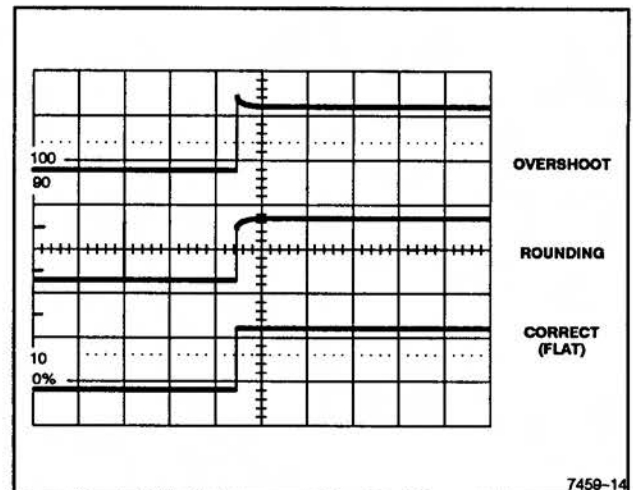

Figure 5-4. CH1 and CH2 Input Compensation.
- e. ADJUST-CH1 Input capacitor on hybrid U110 (the top one) for the best flat corner on the displayed Channel 1 waveform (see Figure 5-4).